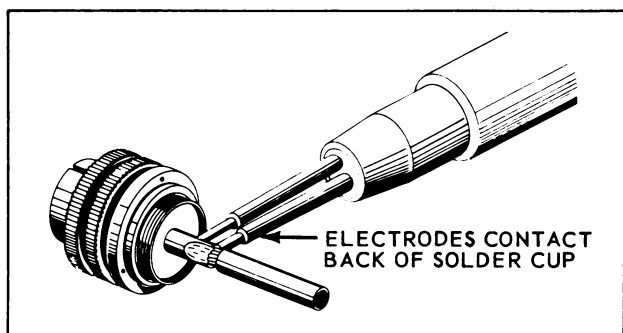

Figure 3-26. Resistance Soldering Pencil for Small Contacts
b. Small contacts (such as in Cannon "U" series) are heated for soldering by use of pencil type resistance soldering tool shown in Figure 3-26. The two electrodes of the tool are placed in contact with the side of the solder cup so that the heating current will pass through the wall of the cup. When the solder in the cup flows, insert the pre-tinned wire. Continue to apply heat to connection until solder flows to form smooth fillet, then stop current and allow joint to cool without movement.